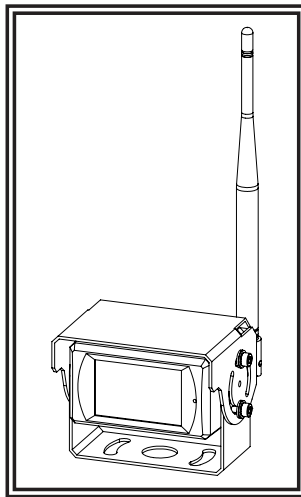

Figure 7
5. Attach the antenna so that it is vertical as shown in Figure 7.